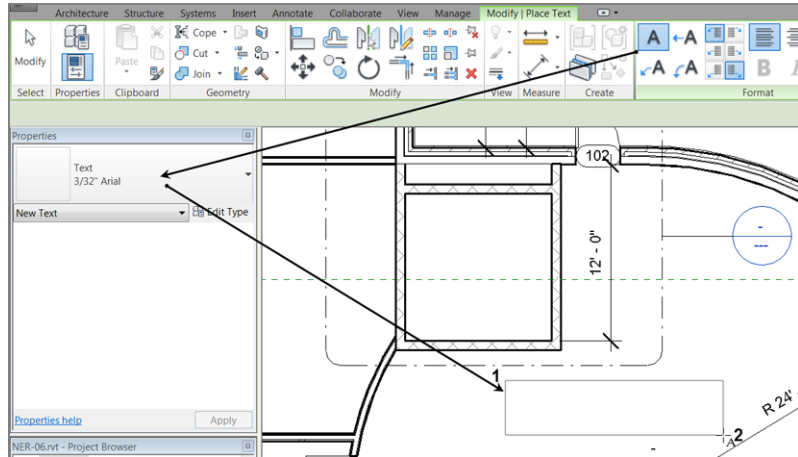

FIGURE 5.48: Placing text
4. In the Type Selector, select Text : 3/32" (2) Arial.
5. On the Format panel, you have choices for a leader. For this example, click the No Leader button. It's the button with the A on it, as shown in Figure 5.48.
6. To place the text, you can pick a point or drag a window. Left-click at the point marked 1 in Figure 5.48. Keep the button down.